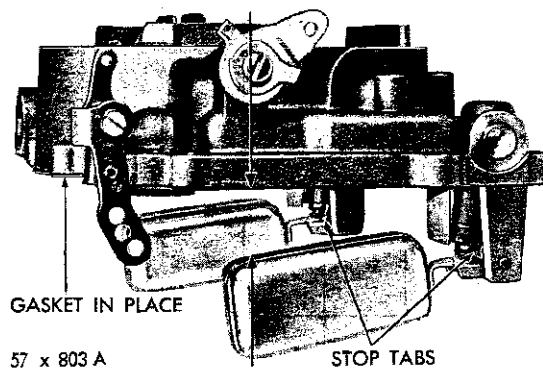

Fig. 47—Measuring the Float Drop
(1) Holding the air horn in an upright position, measure the distance from the top of the floats (outer end) to the air horn gasket, as shown in Figure 47. This measurement should be $\frac{3}{4}$ inch. If an adjustment is necessary, bend the stop tabs on the